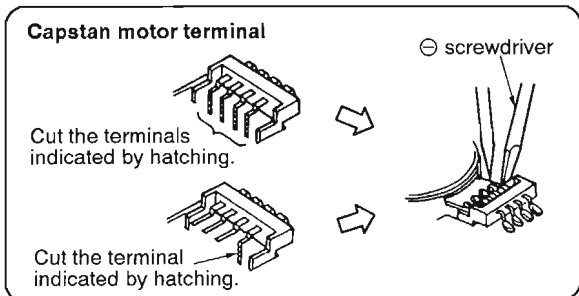

Fig. 2
■ The difference types of capstan motor terminal are used for the units. When assembling/reassembling, refer to the Fig. 1 and Fig. 2.